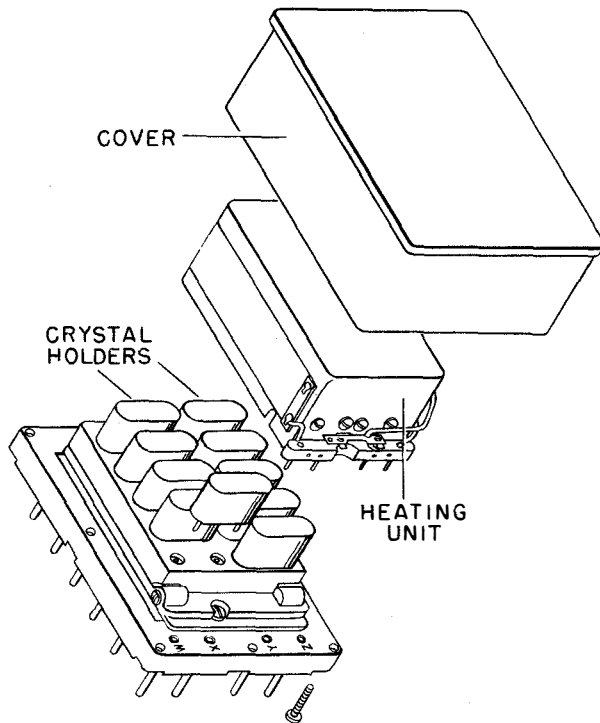

Figure 3-26. Dismantling Crystal Oven CFT-40148
Step 1. Remove the selector panel cover, then remove the CFT-40148 Crystal Oven from the jack plate which is located on the front panel of the receiver (Figure 3-26).